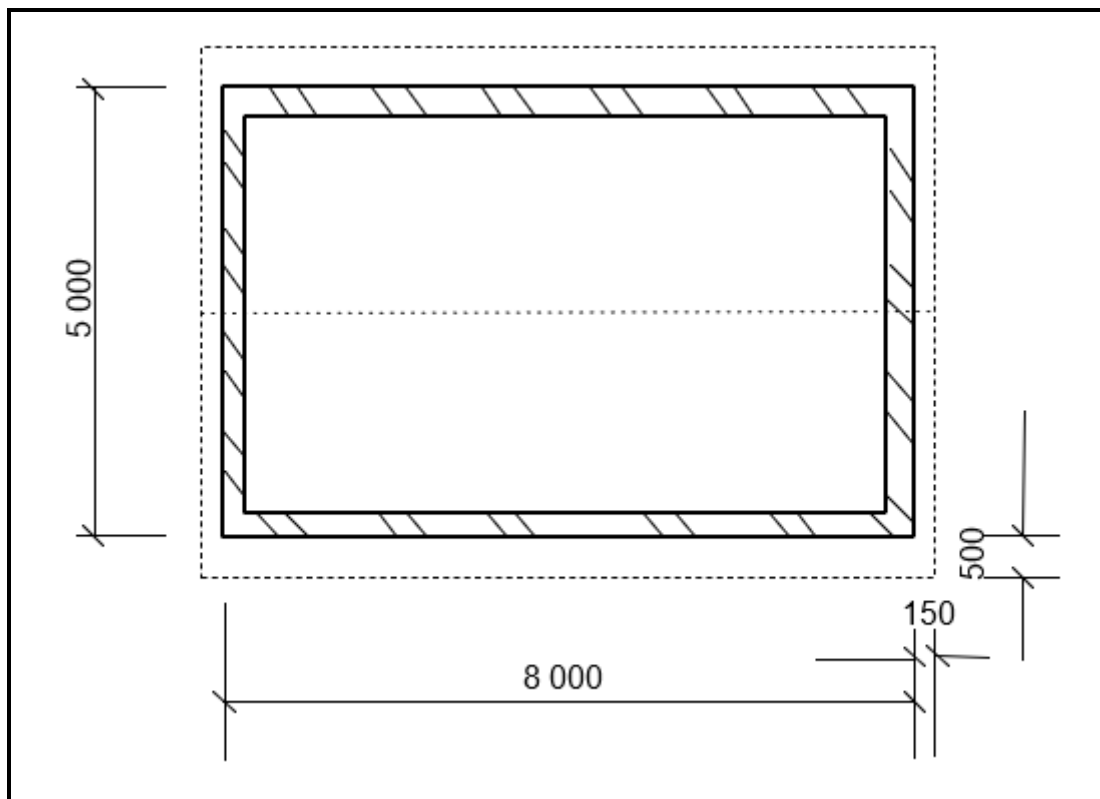

FIGURE 3.2
3.2 FIGURE 3.2 below shows the floor plan of a storeroom with a gable roof.